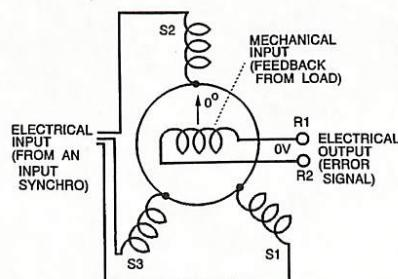

Figure 5. Control Transformer
Control transformer. A control transformer (CT) electrical representation (Figure 5) is very similar to that of a basic synchro, except that the null position occurs when the rotor winding's axis is at a 90° angle in relation to S2.